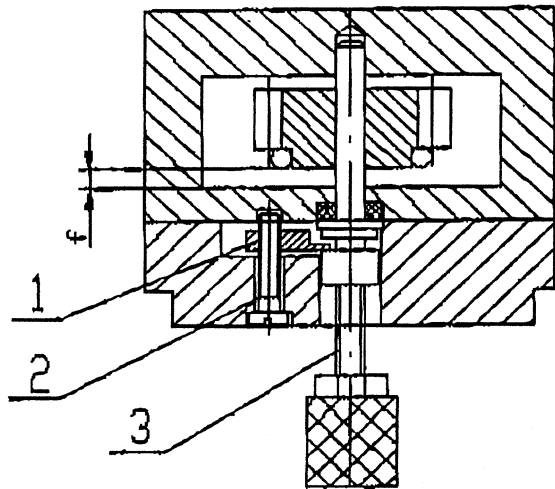

Figure 1
4. Separate the gear Part No.1 (Ref. Figure 1) from the shaft by using a small tweezers or screwdriver (care needs to be taken, only use the tool small enough to get into the screw hole)